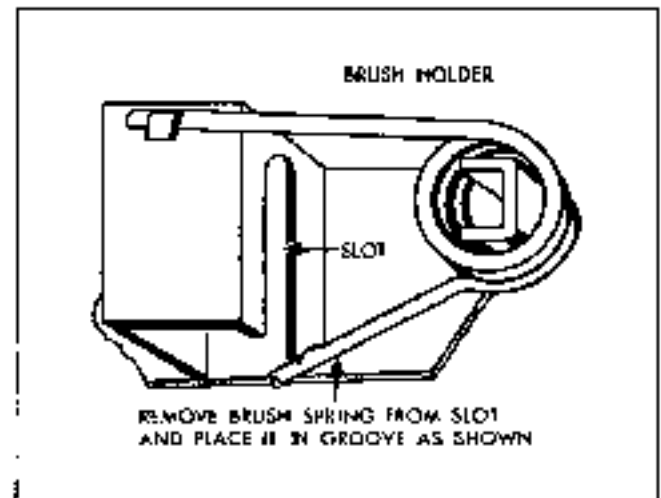

Fig. 12-44 Brush Spring Tempest and Firebird
3. Release brush spring pressure against brushes as shown in Fig. 12-44.